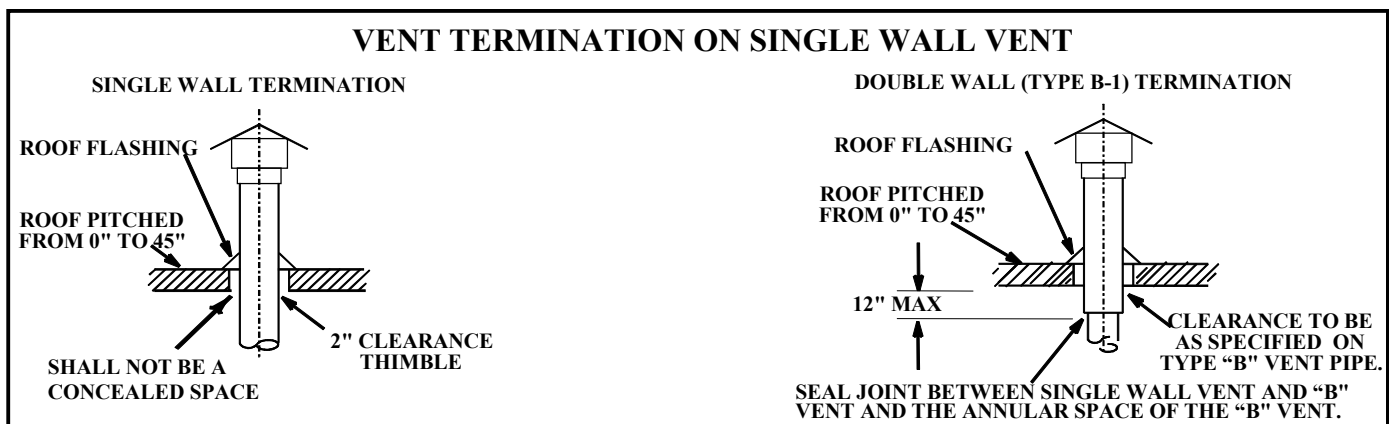
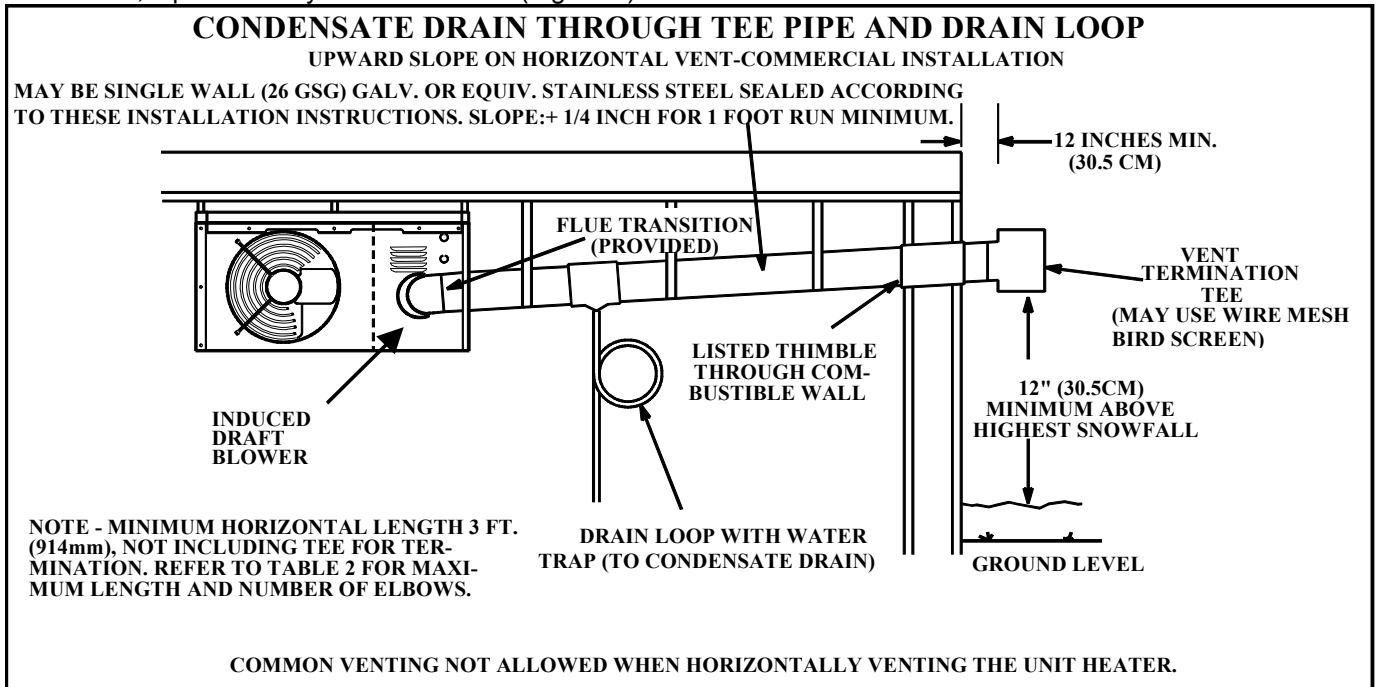

FIGURE 2
FIGURE 3
- 1- These unit heaters are to be used with NFPA- or ANSI- approved chimneys, U.L. listed type B-1 gas vents, single wall metal pipe, or listed chimney-lining system for gas venting where applicable, as well as the modifications and limitations listed in Figure 2. Seal single wall vent material according to the section **A-General Recommendations and Requirements**.
- 8- When termination is routed through an exterior combustible wall the vent must be supported using a listed clearance thimble. Where local authorities permit, a single section of type B-1 vent pipe may be used as an alternative to the thimble. When using a type B-1 vent termination use the clearances specified by the vent manufacturer. Seal the connection between the single wall and double wall pipes and the annular space of the double wall pipe as shown in Figure 2. Inside edge of vent termination tee must be at least 12" from outside wall as shown in Figure 3.
- 1- Horizontal commercial installations are for buildings which are not attached to living spaces. The vent may be single wall vent material installed according to the sections **Venting A - General Recommendations and Requirements** and **C - Horizontal Venting - General** and **D - Horizontal Venting - Commercial**. Refer to Figures 3, 4, and 5.